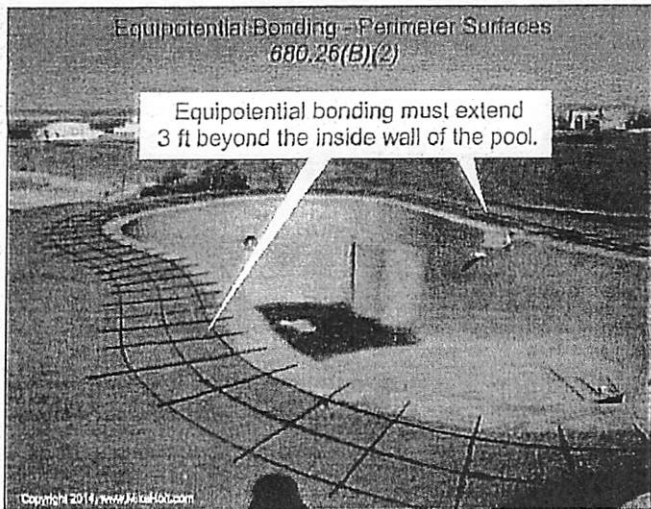

Figure 680-42
(2) Perimeter Surfaces. Equipotential bonding must extend 3 ft horizontally beyond the inside walls of a pool including unpaved, paved, and poured concrete surfaces. Figure 680-42